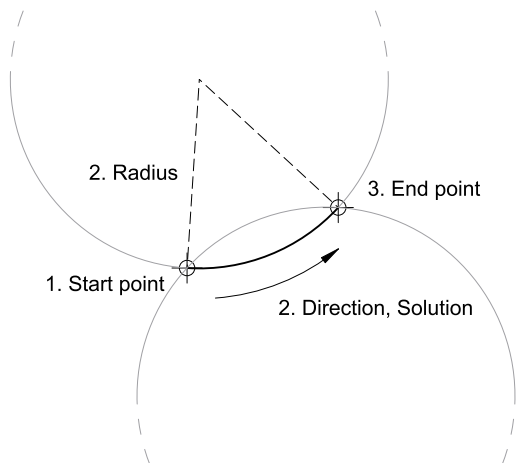

Figure 9-15: Arc from two points and a radius.
This is the first of two tools which can be used to draw an arc from its start point and end point. This tool also requires a radius to be input. Since there are four arcs possible, you also have to define the direction and choose between the shorter or longer of the possible arcs. Figure 9-15 shows the two points with the four possible solutions in gray and the chosen solution in black.
- For the example in Figure 9-15 the direction was chosen as counterclockwise and the solution.